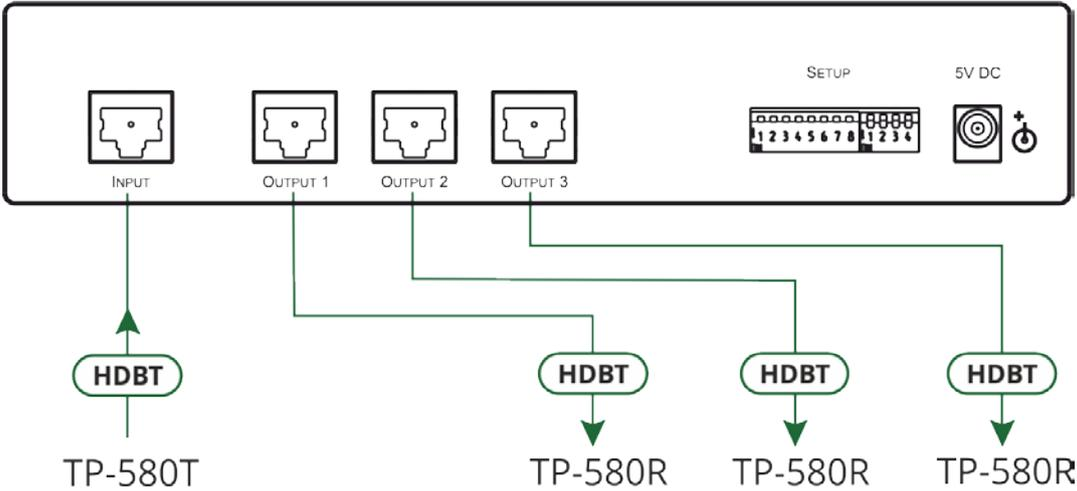

Figure 2: Connecting to the VM-3DT Rear Panel
To connect the **VM-3DT** as illustrated in the example in Figure 2:
3. Connect the 5V DC power adapter to the power socket  unit and then connect the adapter to the mains electricity (not shown in Figure 2). The ON LED lights .